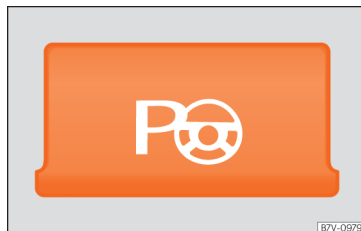

Fig. 266 Detailed view of the centre console: button to switch the park assist system on manually. »
- **In parallel parking:** press the »» **Fig. 266** button as many times as necessary to select the desired parking mode. When the function is enabled, the lamp button will light up.
- **In head-in parking:** press the »» **Fig. 266** button as many times as necessary to select the desired parking mode. When the function is enabled, the lamp button will light up.
- Press button . When the function is enabled, the button  **Fig. 266** will light up.